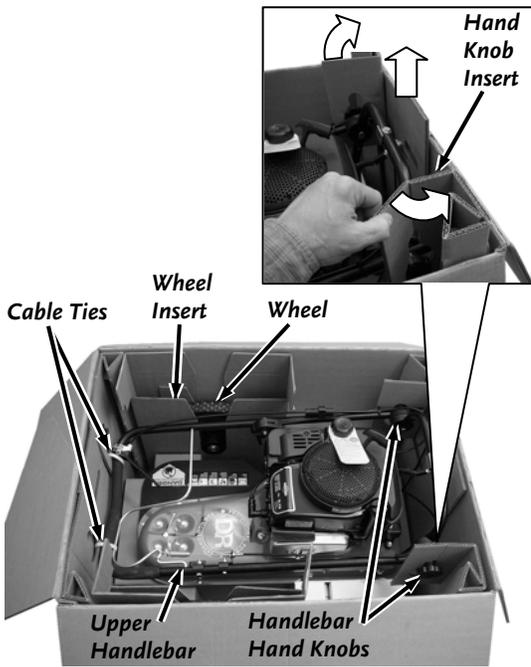

Figure 4
4. Hold the Upper Handlebar and use Wire Cutters to cut the Cable Ties that attach the Upper Handlebar to the Box (**Figure 4**).